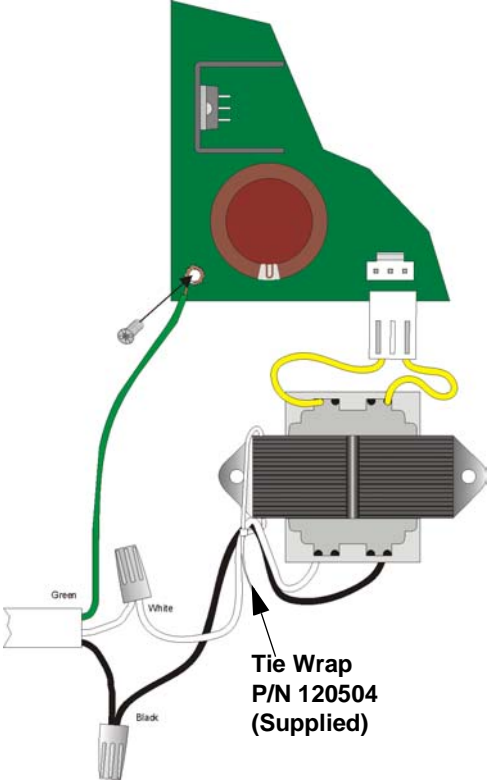

Figure 3-13 AC Connections
- 4. Wire AC to the transformer as shown in Figure 3-13.